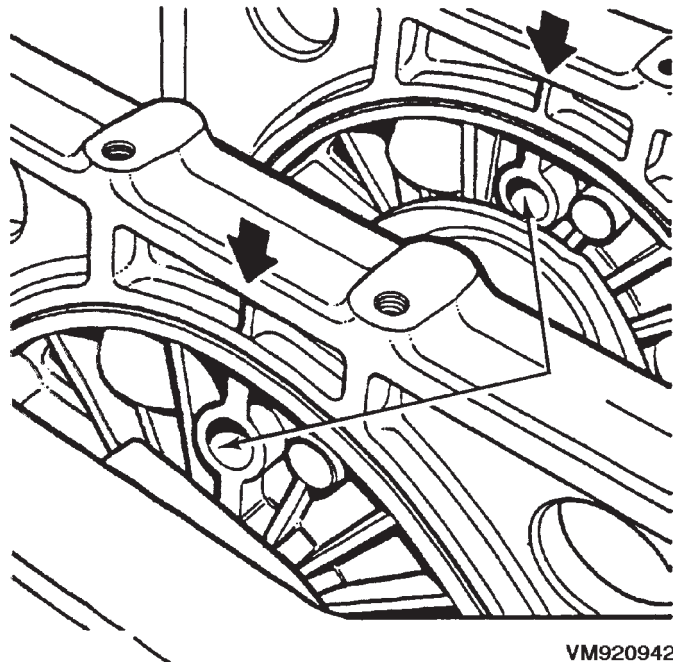

Fig. 112 Main Bearing Support Alignment
(8) Slide special tool VM.1004 over the crankshaft gear and, insert the crankshaft and support assembly into the crankcase in the same manner used for removal.
(9) Align the holes in the lower supports, with the center of the crankcase webs (Fig. 112).